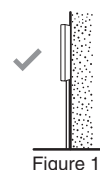

Figure 1
- Be sure to install the Unit on the wall as illustrated in Figure 1 (vertical position with the water fittings pointing downward).